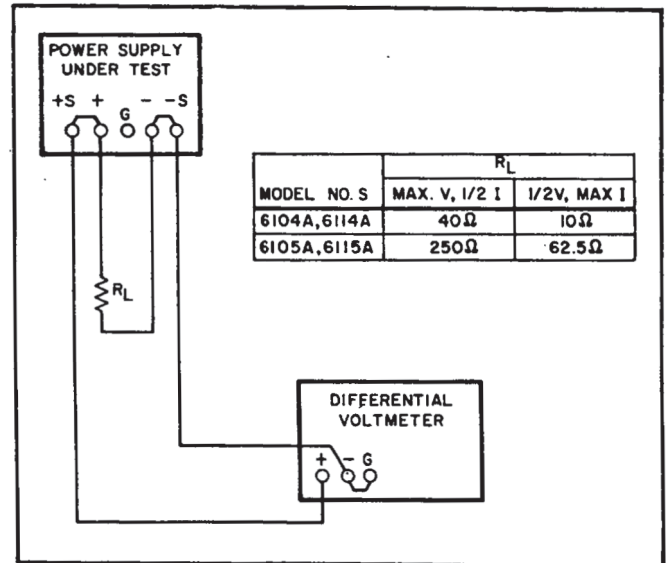

Figure 5-2. Constant Voltage Load Regulation Test Setup
- Connect load resistor ( $R_L$ ) indicated in Figure 5-2 (maximum voltage, 1/2 maximum current) across output terminals of supply.
a. Connect load resistor ( $R_L$ ) indicated in Figure 5-2 (maximum voltage, 1/2 maximum current) across output terminals of supply.
a. Connect test setup shown in Figure 5-2.
- a. Connect test set up shown in Figure 5-2; select  $R_L$  as applicable for the voltage/current range being checked.
- a. Connect load resistance (full voltage/half current) and differential voltmeter as illustrated in Figure 5-2.
- Connect load resistance (full voltage/half current) and differential voltmeter as illustrated in Figure 5-2.